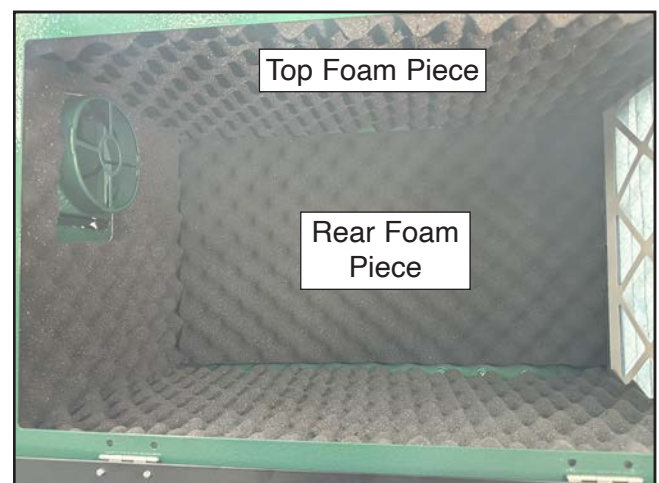

Figure 15. Rear and top foam pieces applied to maintenance compartment panels.
13. Apply rear foam piece to rear panel inside maintenance compartment, as shown in **Figure 15**.
14. Apply top foam piece to top panel inside maintenance compartment, as shown in **Figure 15**.